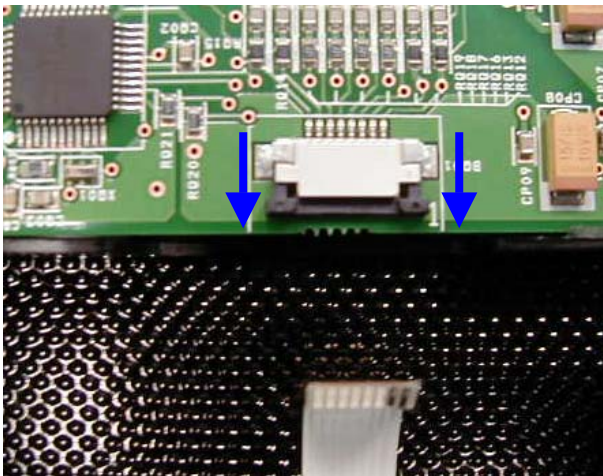

Fig. 8
- Loosen the locking crosspiece as shown in Fig. 8